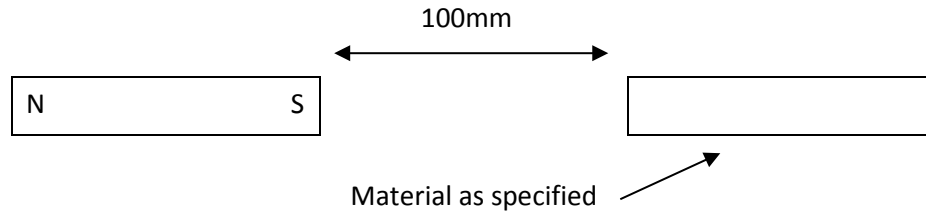

Figure 9
1. Place a rectangular bar magnet and a mild steel strip approximately 100mm apart on the bench as shown in Figure 9.